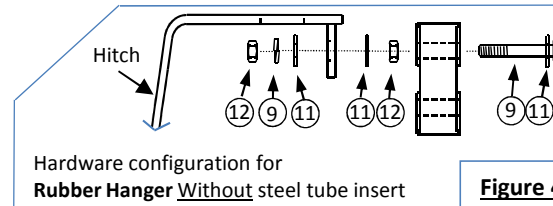
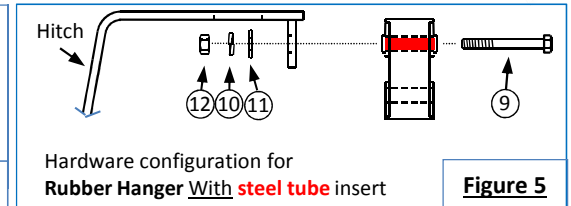

Figure 4
Figure 5
- Raise muffler(s) back into position** - Reattach rubber hangers as shown in Fig 4 or Fig 5. Tighten all M8 fasteners to proper torque specifications. **NOTE:** Hardware configuration varies by vehicle.
13. Raise muffler(s) back into position - Reattach rubber hangers as shown in Fig 4 or Fig 5. Tighten all M8 fasteners to proper torque specifications. **NOTE:** Hardware configuration varies by vehicle.